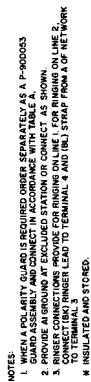

FIGURE 1. 2558 Telephone Set Connections, 2 Line Pickup With Exclusion on Line 1, Signaling, Wired for 1A1 or 1A2 Key Telephone Systems
- e. 2558 Telephone Set Connections, 2 Line Pickup With Exclusion on Line 1, Signaling, Wired for 1A1 and 1A2 Key Telephone Systems—Figure 1.